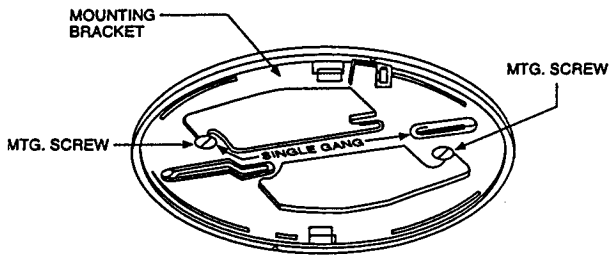

Figure 5. Installing the Mounting Bracket
2. Mount the bracket (see Figure 5) directly on wood surfaces using two 8x1-1/2-inch wood screws. If mounting on plaster or drywall, use appropriate anchors and screws.